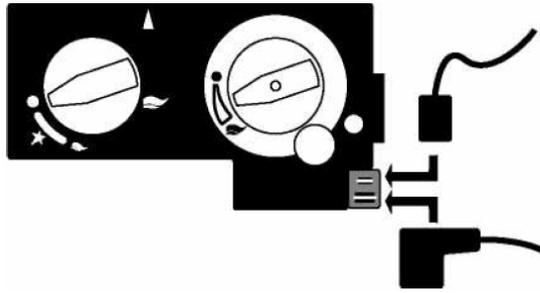

Fig. 20
- Chimney connection set part number A9225000 Fig 20 part D.
- 3) Connect the wires to the gas control (see fig.20 ).